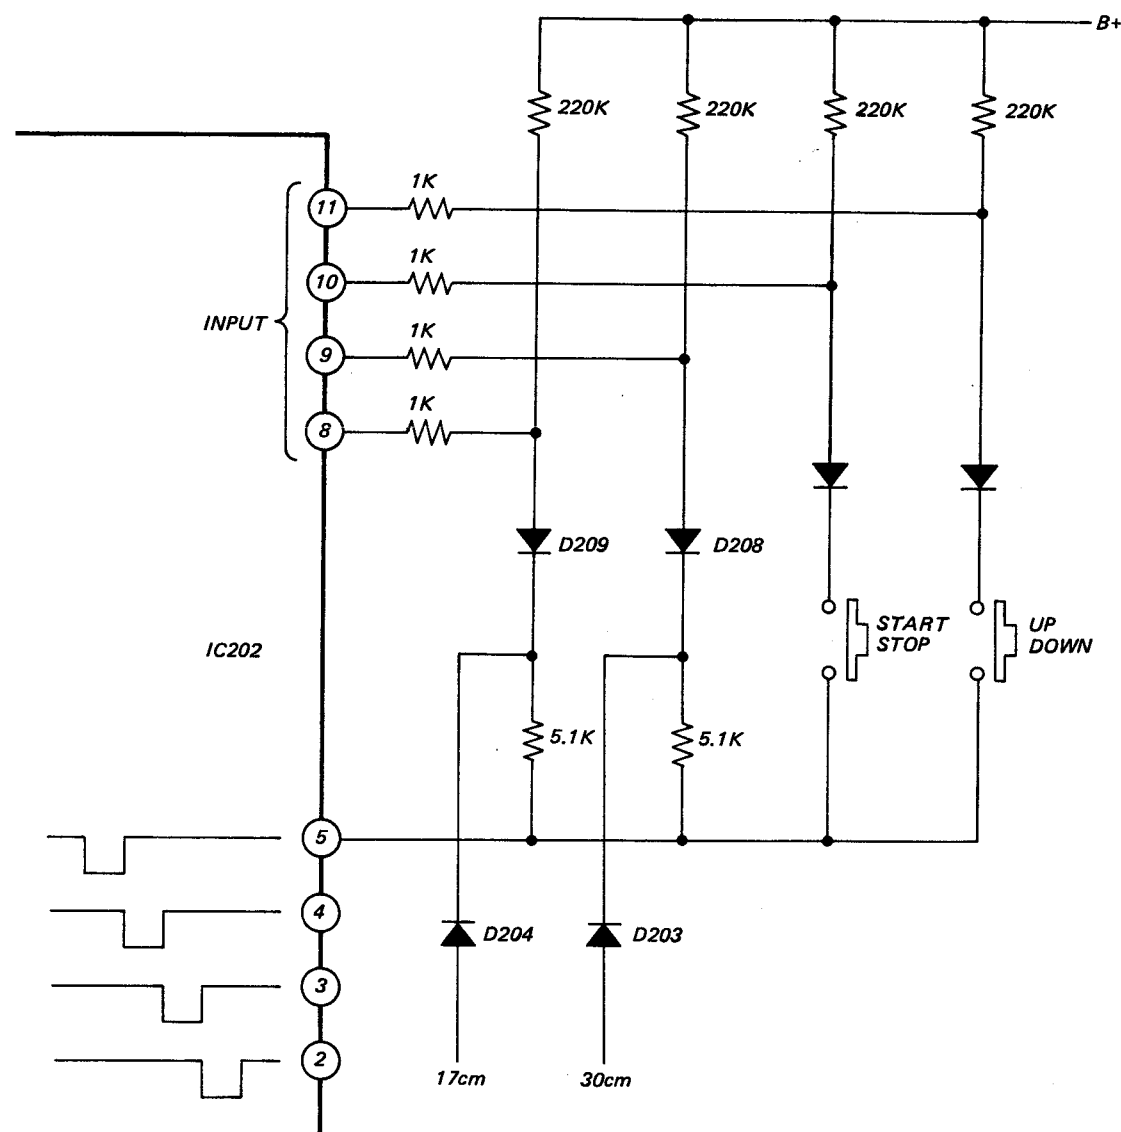

Fig. 7
When pin (5) is low, the four inputs are identified as shown in the figure 7. When no record is set, D204, 203 are on, and D208, 209 do not go on, so pins (8) and (9) are high. When a 30 cm record is set, D203, 204 go off, D208, D209 go on, and pins (8) and (9) both go low.
This identifies that it is a 30cm record. Input detection is performed in this way. Detection of the state is done by making pins (2) – (5) low in order, and observing the states of pins (8) – (11) at that time. (Refer to Figure 7.)